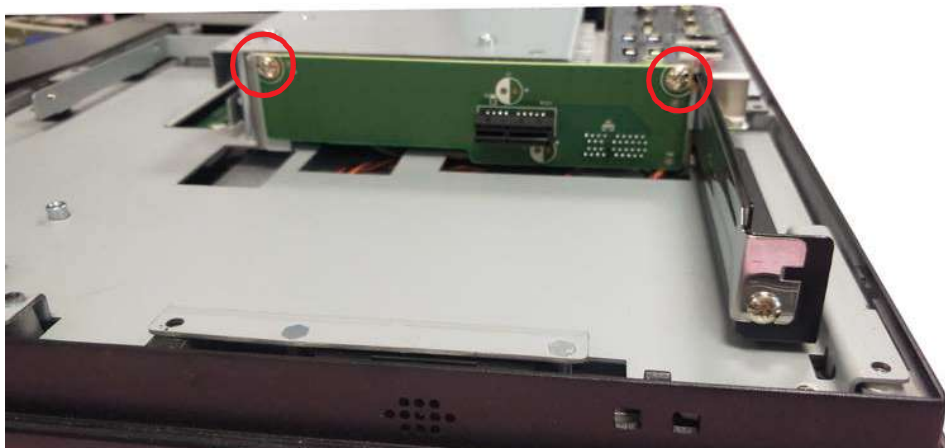

Figure 2.27
2. Insert the riser card into the slot, and secure in place using two screws (see Fig. 2.27). The default riser card is PCIe-to-PCIe. However, a PCIe-to-PCI card (989K821131E for PPC-415, 989K093802E for PPC-417/419) is optional, allowing users to select the appropriate card according to their usage requirements.